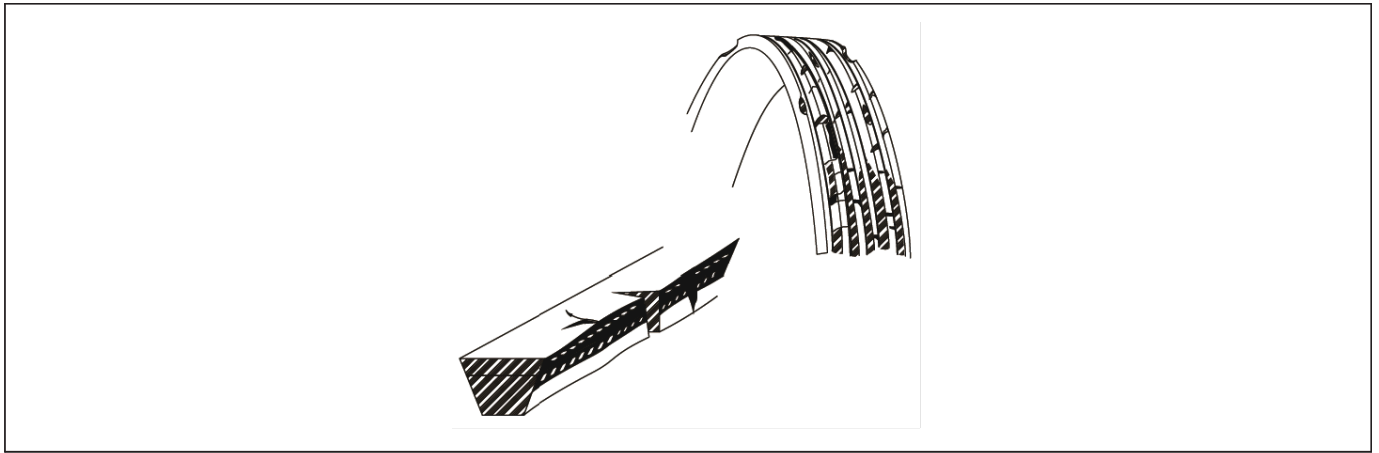

Figure 29: Drive Belt Damage
3. Inspect the drive belt. Look for signs of cracking, separation, cuts, or other damage. See Figure 29.